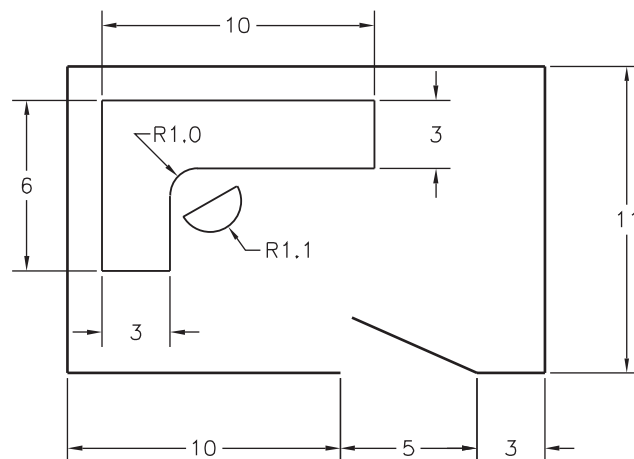

Fig. 13-1
8. Draw the room shown in Fig. 13-1, including the table and chair. Estimate the distance from the wall to the table.